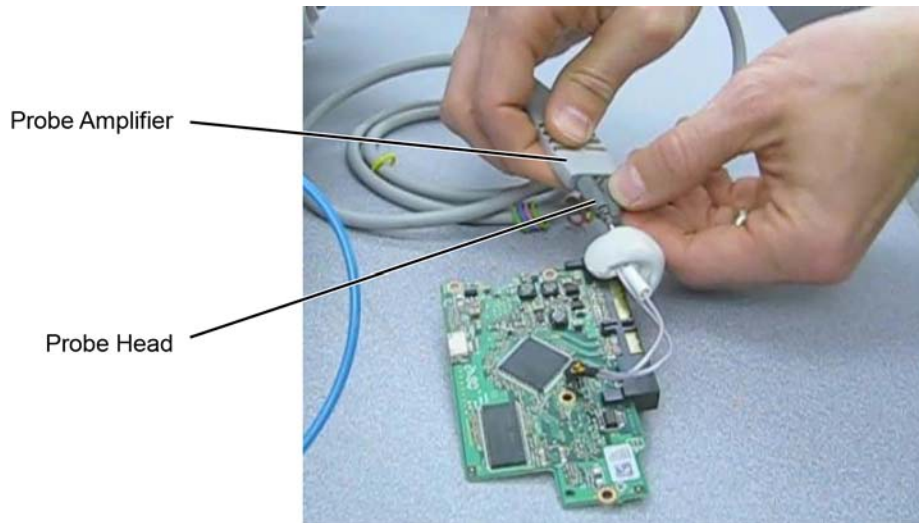

Figure 5 Amplifier Connected to Head
- 4 Connect the probe head to the probe amplifier as shown in Figure 5 on page 8.